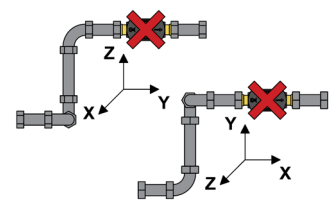

Fig.4
4. Do not place the flow sensor immediately after a double curve oriented on two different planes (*Fig.4*);